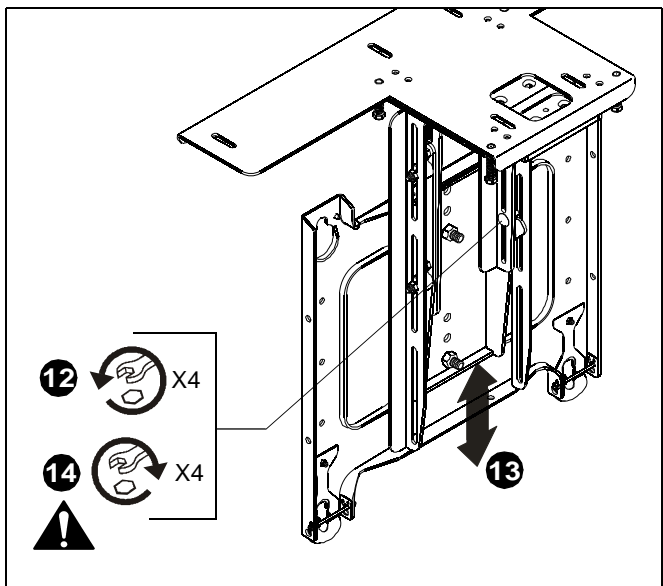

Figure 6
9. Secure faceplate to faceplate mounting bracket using two locknuts. (See figure 6)
12. Loosen four nuts securing faceplate mounting bracket to frame. (See figure 6)
13. Move faceplate mounting bracket desired amount. (See figure 6)